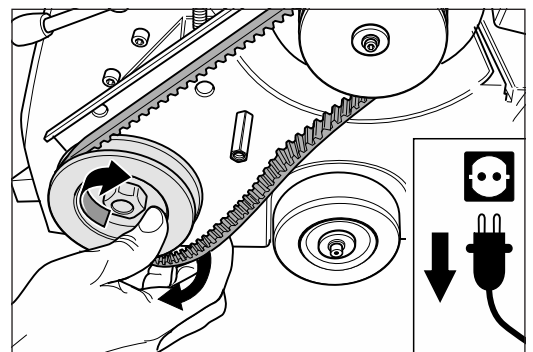

Fig. 32 Allow the drive belt to run off the lower pulley.
- 8 Turn the lower pulley and allow the drive belt to run off the lower pulley (fig. 32).